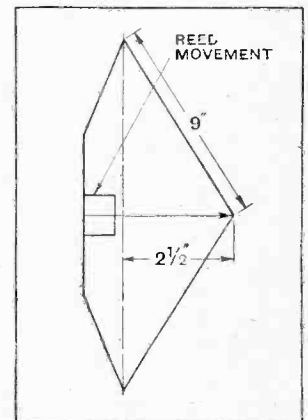

Fig. 8.—The dimensions and arrangement of diaphragm used to exhibit the "break-up" effect.
However, in the experiments about to be described, I found that lycopodium and sand traced out the same patterns when used as a mechanical mixture or quite separately. This was fortunate, because sand slides off a conical surface so easily. So far as the diaphragm is concerned there are several points to be observed in order to obtain satisfactory results: (1) The central angle of the cone must not be too small or the lycopodium powder will merely roll to the apex. (2) The surface of the paper must not be too smooth. (3) The colour of the paper should be a good contrast with the yellow lycopodium powder. One cone of rough, brown paper, illustrated in Fig. 8, was particularly successful, because the friction on the surface was